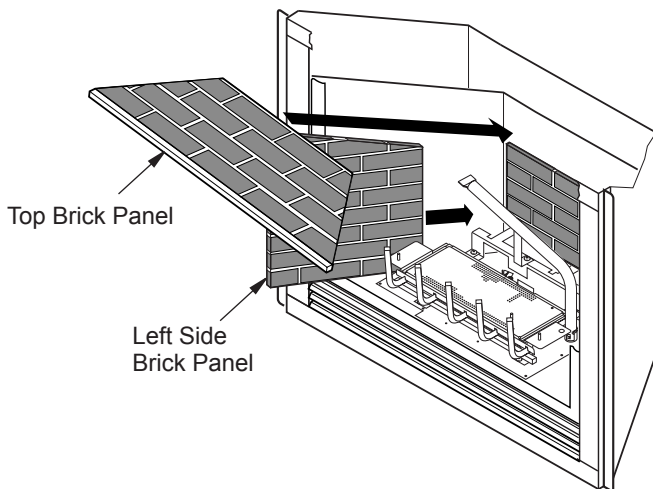

Figure 43 - Installing Left Side and Top Brick Panels
6. Install top brick panel (36" Series only) by resting on the top of the rear panel. Hold the top brick panel in place and install left side brick panel by sliding it between the grate and the side of the firebox, securing top panel (see Figure 43).